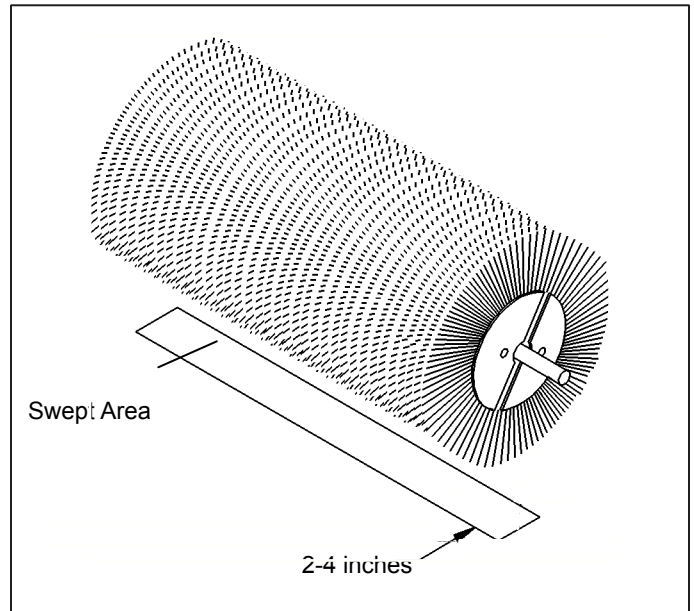

figure 1
4. Switch off the engine. The brush pattern left in the dust should be 2-4 inches wide, running the length of the brush. (figure 1)